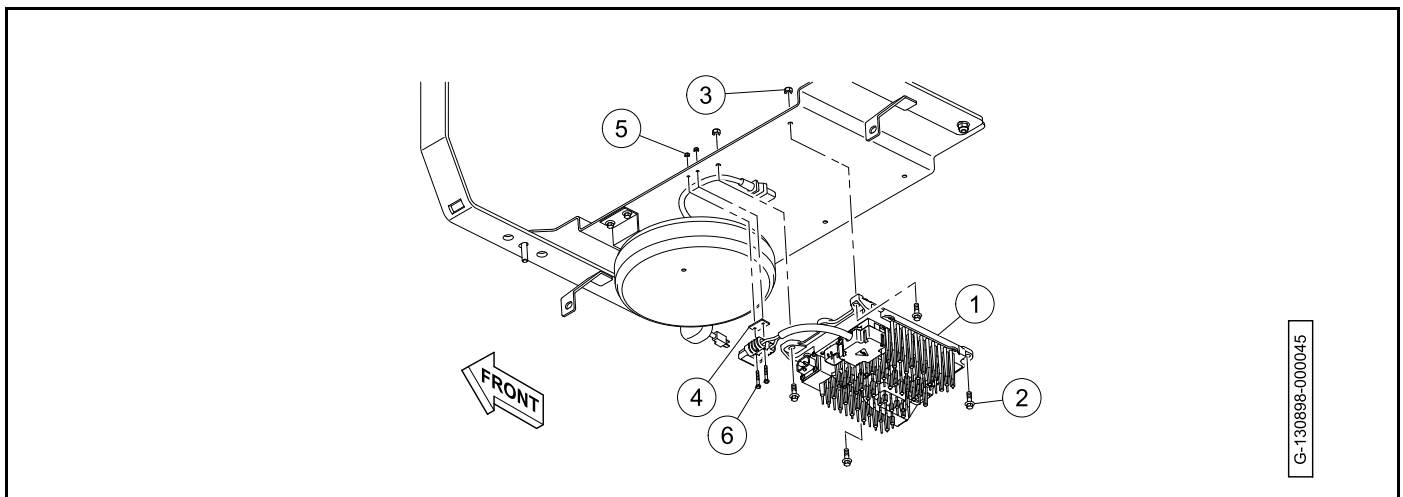

Figure 15-45 Battery Charger Installation
1. Install the battery charger (1), bolts (2), and nuts (3) (**Figure 15-45**). Tighten the nuts to 115 in·lb (13 N·m).